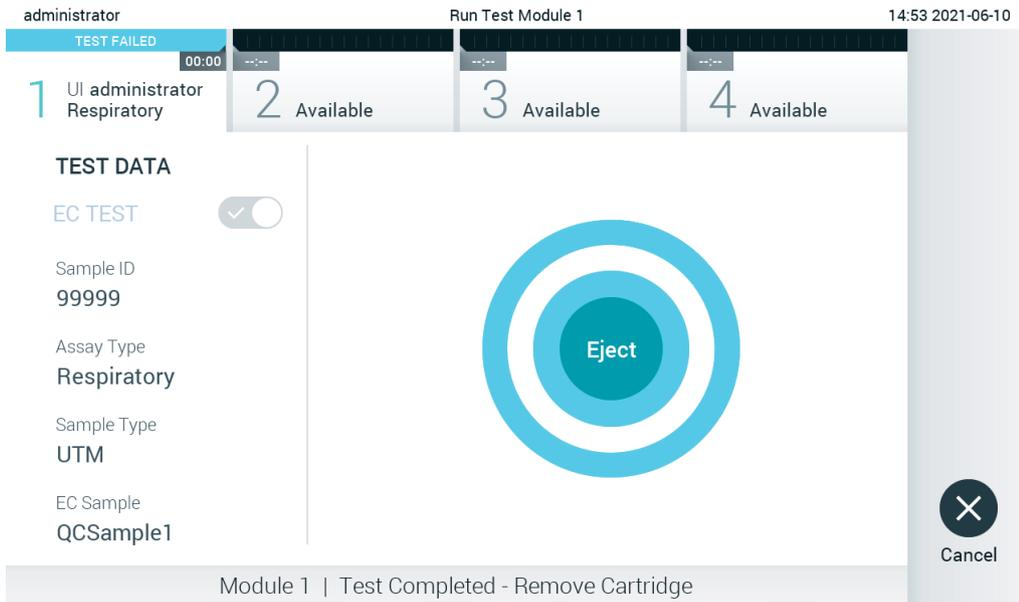

Figure 95. Eject screen display.
11. After the test run is completed, the **Eject** screen will appear (Figure 95, next page). Press  **Eject** on the touchscreen to remove the QIAstat-Dx assay cartridge and dispose it as biohazardous waste in accordance with all national, state, and local health and safety regulations and laws.